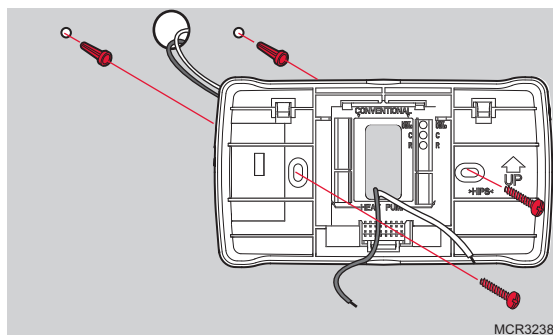

Fig. 12. Mounting wallplate.
4. Position the wallplate over the holes, pulling wires through the wiring opening. See Fig. 12.